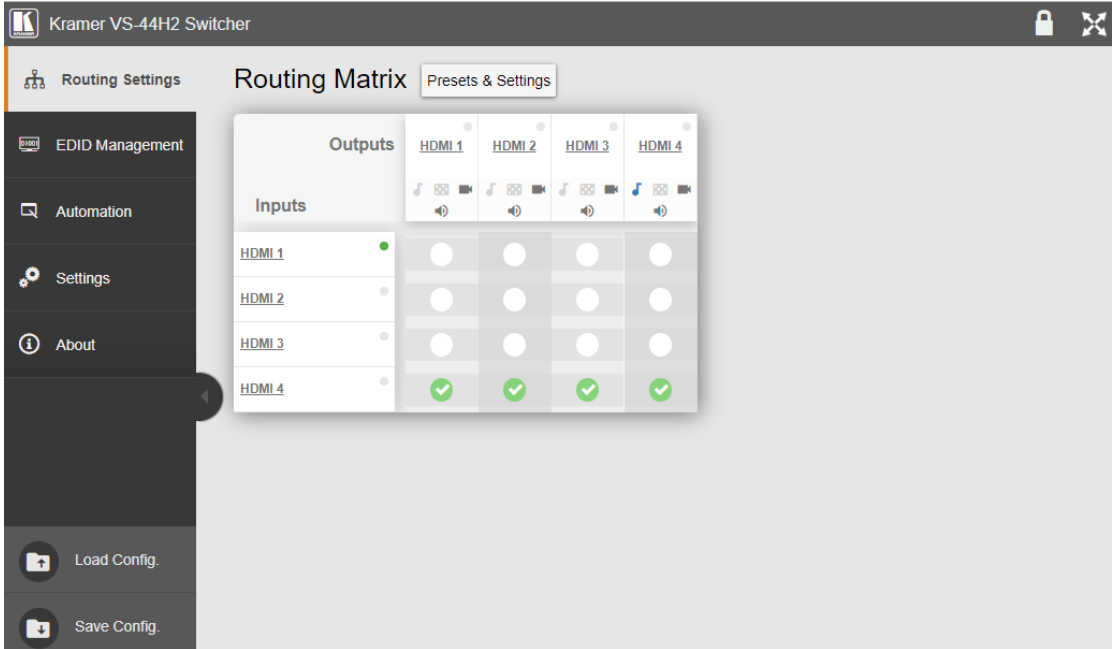

Figure 11: Routing Settings Page
1. In the Navigation pane, click **Routing Settings**. The Routing Matrix page appears (see Figure 11).